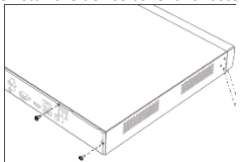

Figure 2-7 Remove Cover
Step 1 Unfasten screws on each panel to remove the device cover. Refer to Figure 2-7.